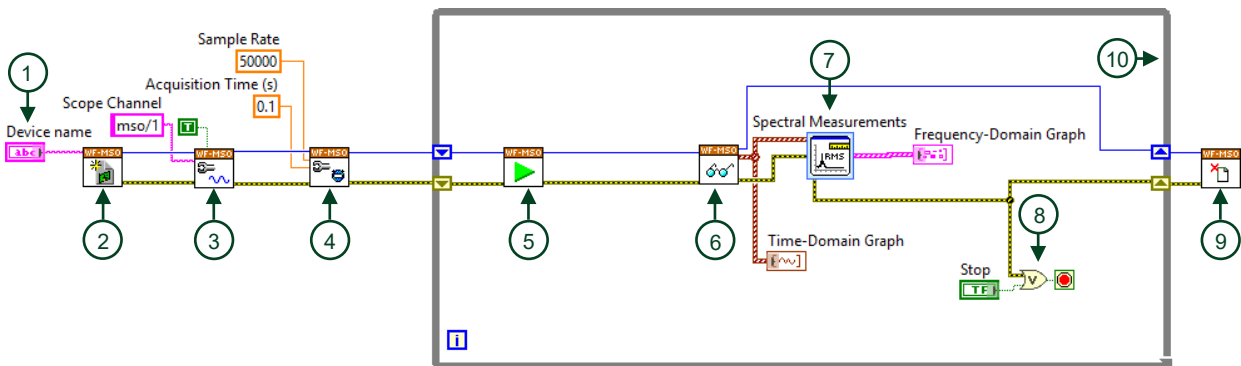
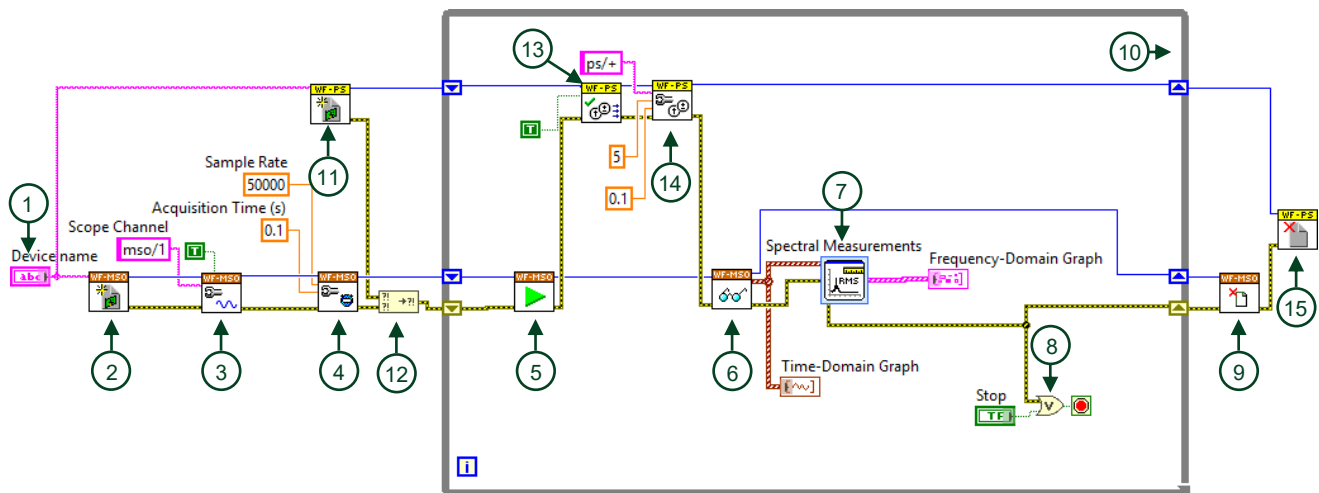

Figure 8.1. VI Block Diagram for ADS and ADS MAX
Figure 8.2. VI Block Diagram for AD 3
2.1. Modify the block diagram as shown in **Figure 8.1** and **Figure 8.2**.
Figure 8.1 shows the LabVIEW block diagram code applicable only to ADS and ADS Max devices.
Figure 8.2 shows the LabVIEW block diagram code applicable only to the AD 3 device.